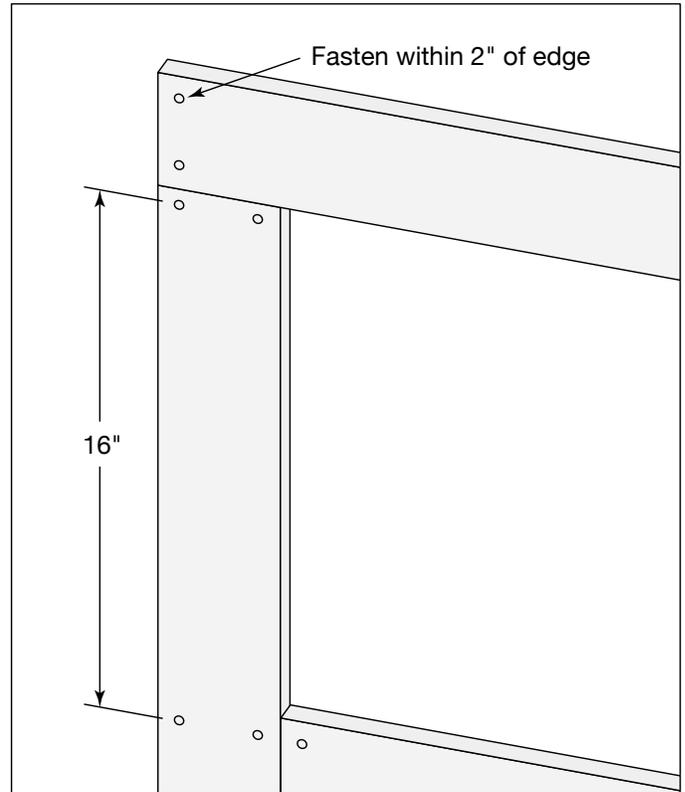

Fig. 7
- When installing TruExterior Trim, allow the top trim pieces to extend to the edges of the vertical trim pieces. The bottom trim should fit between the two vertical side pieces (Fig. 7).